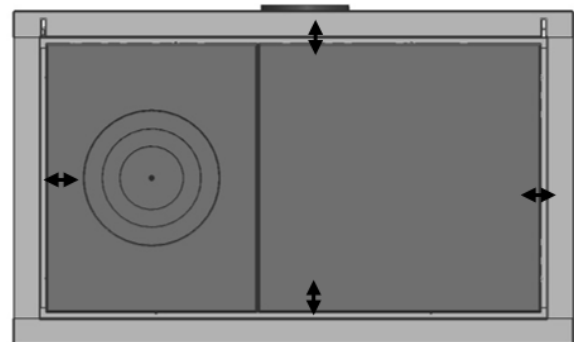

FIG. 18
- Before putting the vitroceramic glass worktop in place, check that the cast iron under worktops are centred with respect to the frame of the worktop (Figure 18).